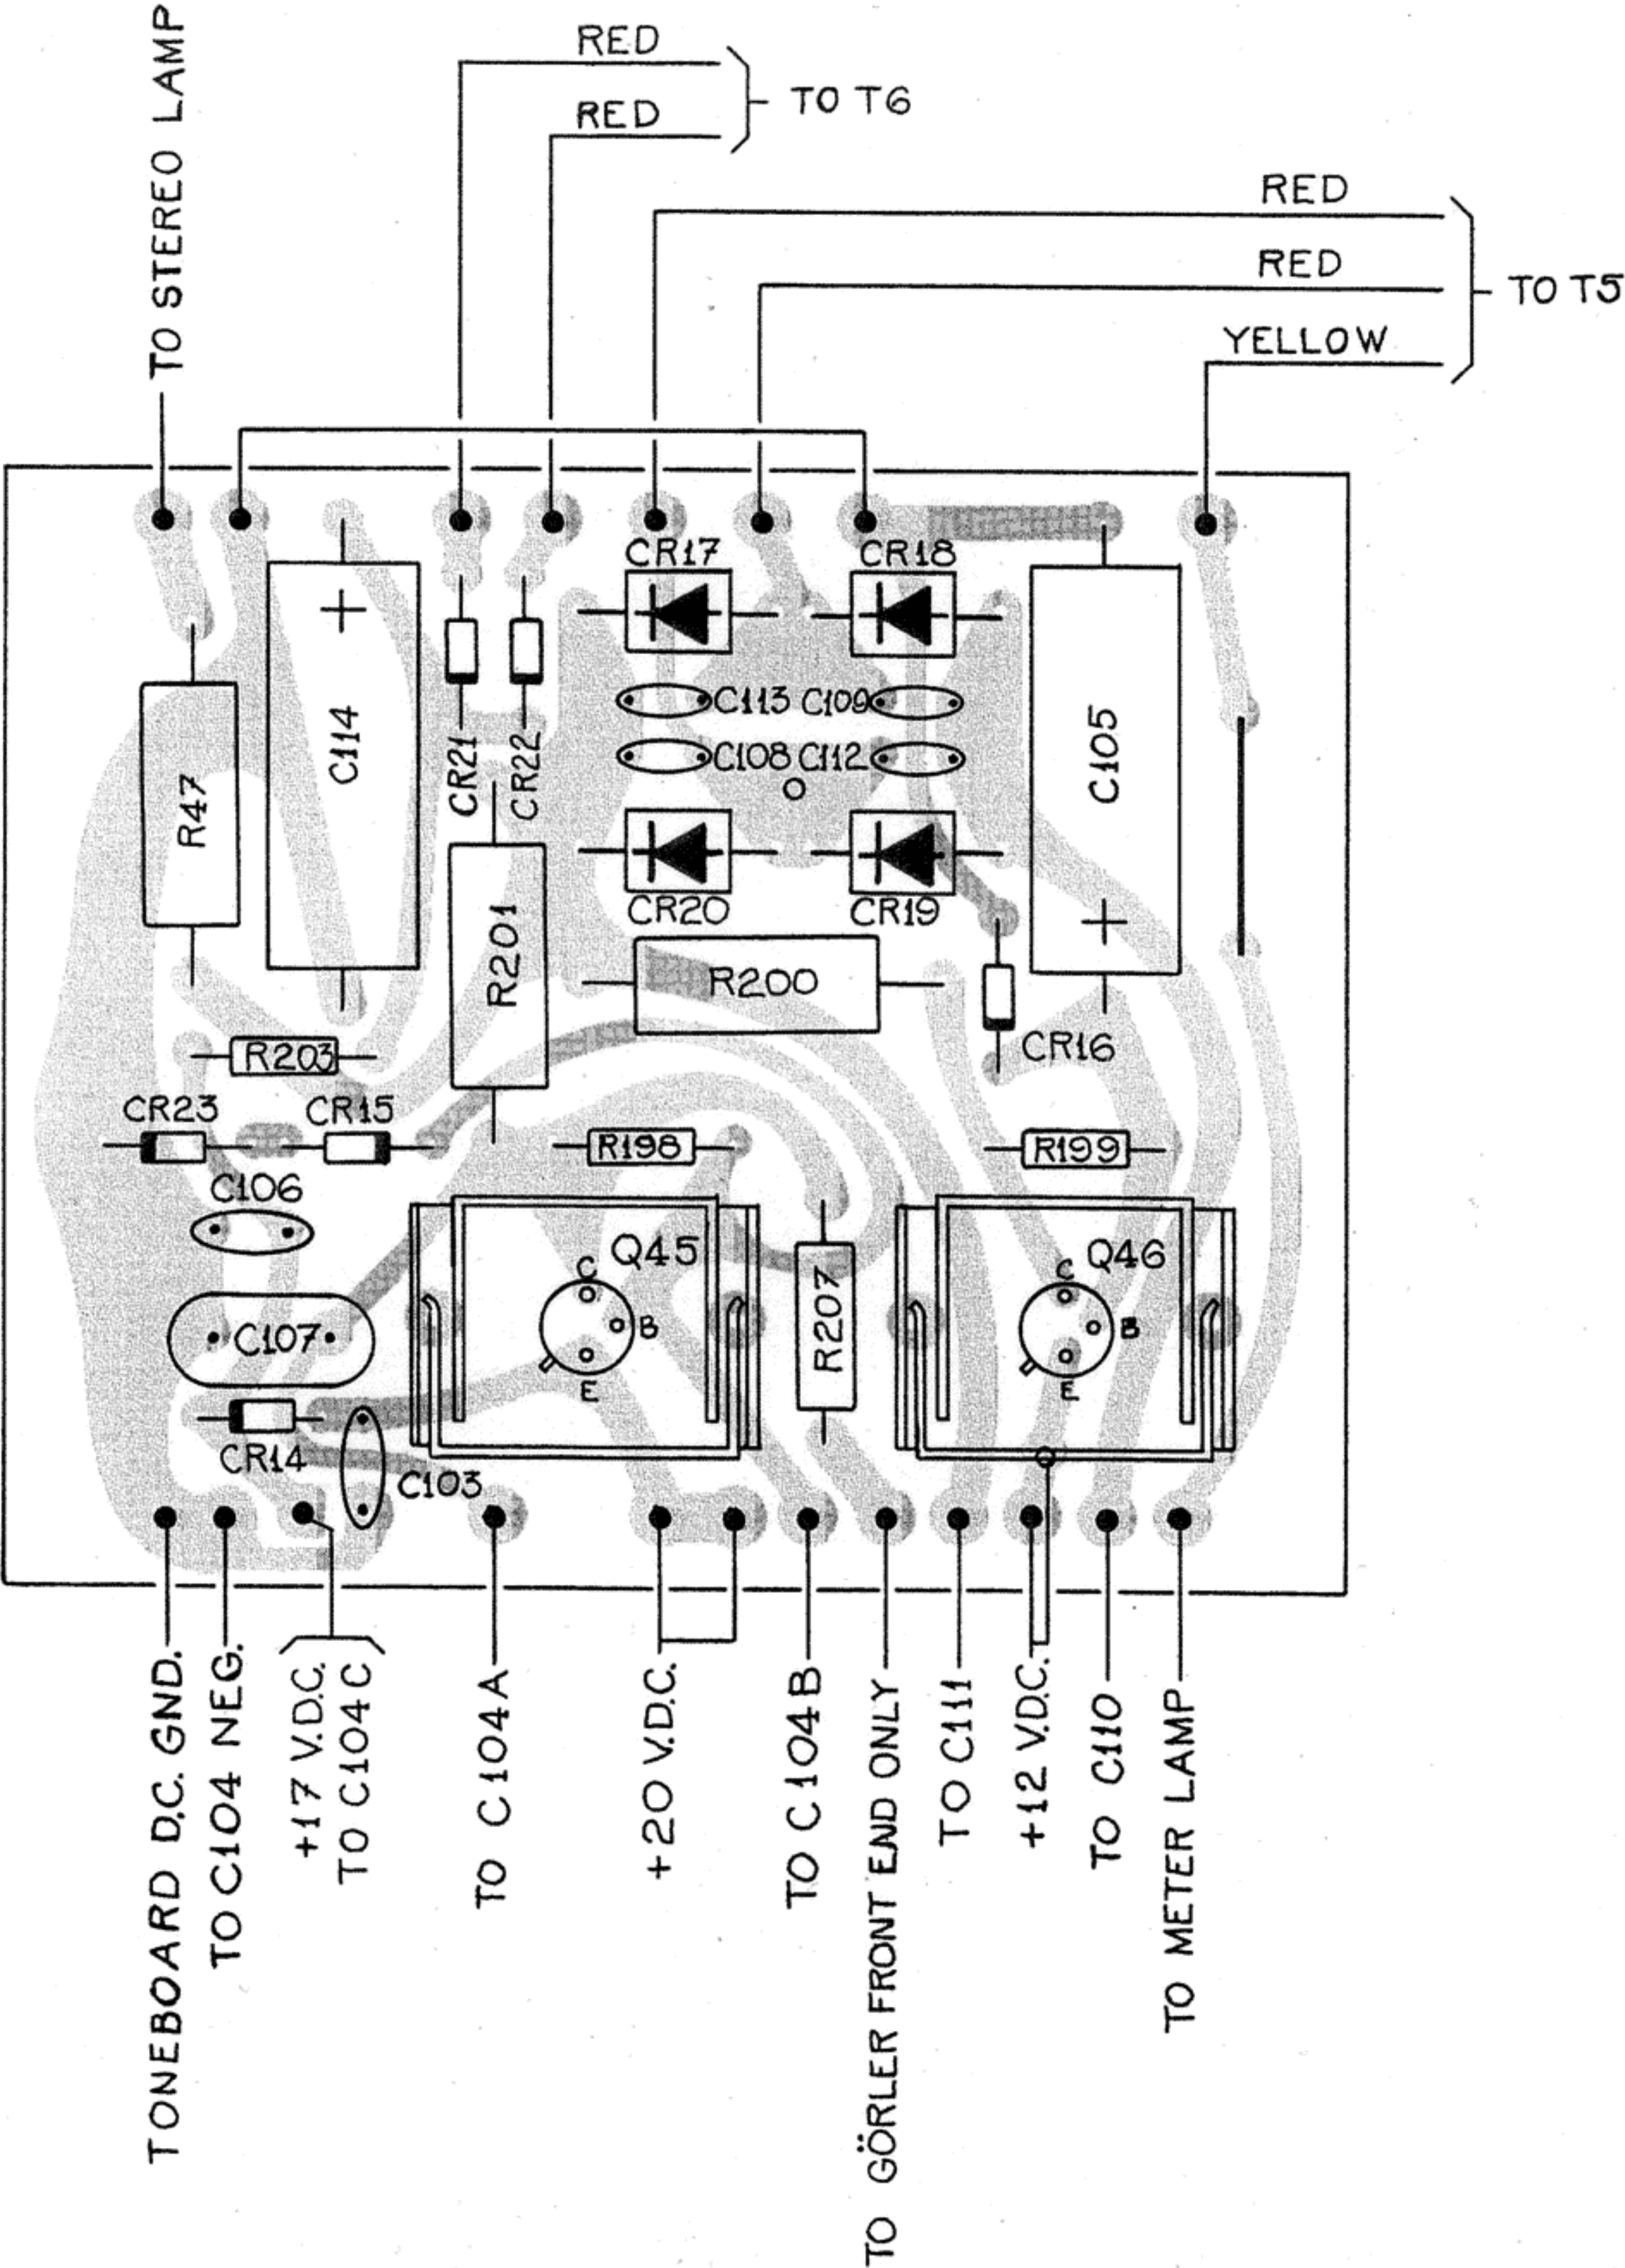

FIGURE 13
a. **IF Board:** There are no RC decoupling components in the +20 V DC feed to the noise amps. Receivers having the LC IF filter are provided with a bracket for mounting this to the front end. (See Figure 13.)